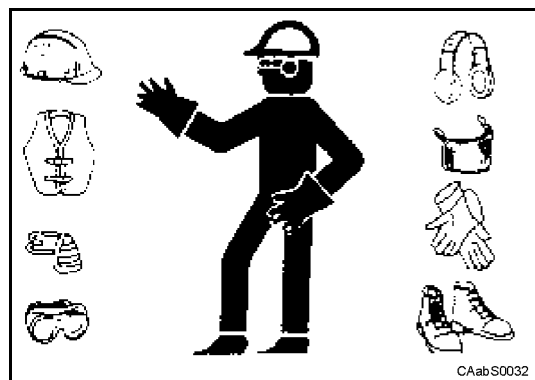

Fig. 7
- 5 Usare indumenti e protezioni adatte allo scopo come: tuta, guanti protettivi e cuffie (Fig. 7).
- 6 Wear suitable clothing and protection such as overalls, safety gloves and ear safety devices (Fig. 7).